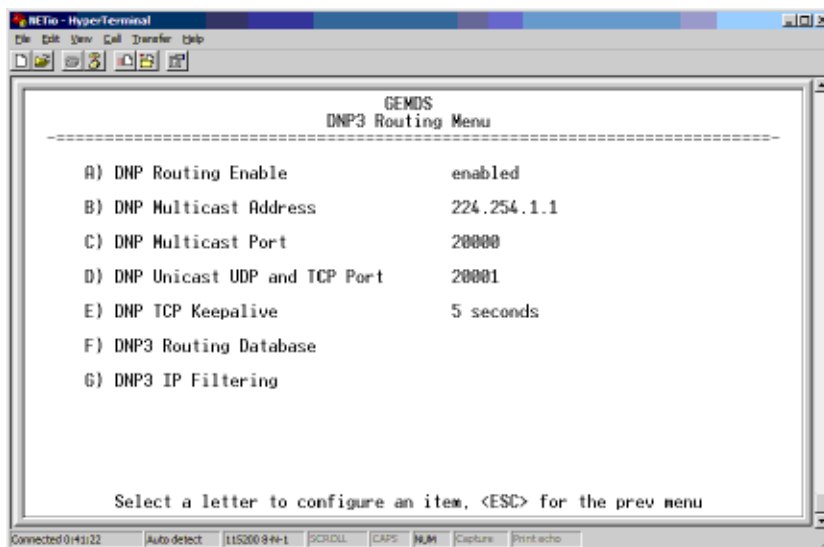

Figure 6-26. DNP3 Routing Menu
- Select item L from the Main Menu to access the DNP3 Routing Menu shown in Figure 6-26.